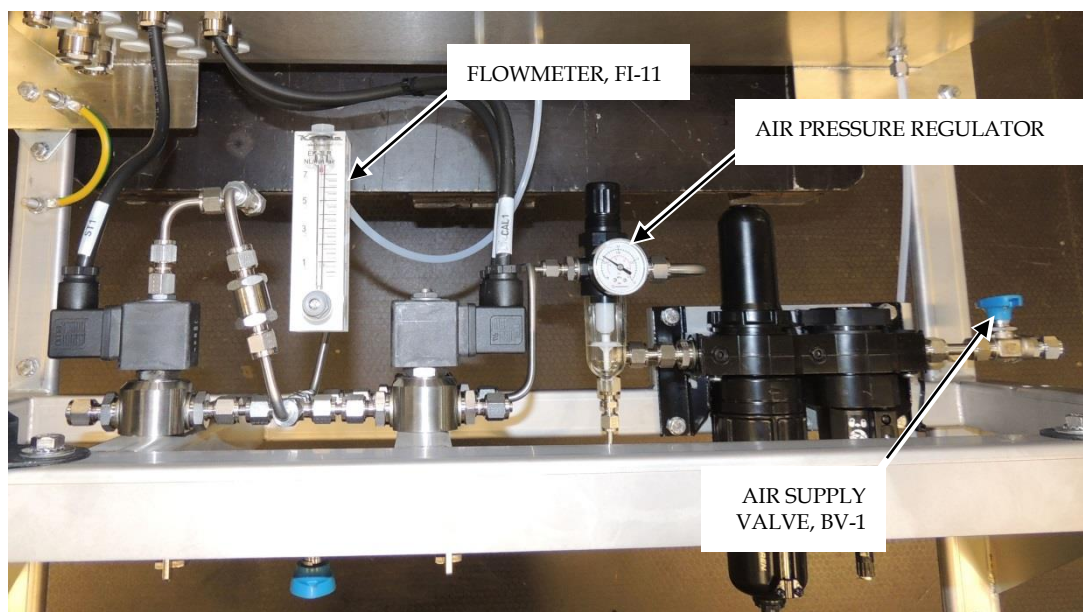

Figure 9 Flowmeter, regulator and air supply valve under AC
Flowmeters (refer to Figure 8 and Figure 9):
- 1) AC (analyser cabinet): Turn on the circuit breaker (item 2 and 4 on dwg 1003).
- 2) AC: Open valve, BV-1, on air supply (under AC). Refer to Figure 9.
- 8) AC: Make adjustment on flowmeter, FI-11, under AC to approx. 1.0 l/min when stream 1 is selected. Refer to Figure 9.
- 13) AC: Adjust the air supply pressure regulator under AC (refer to Figure 9) until flowmeter, FI-11, under AC is 1.0 l/min.